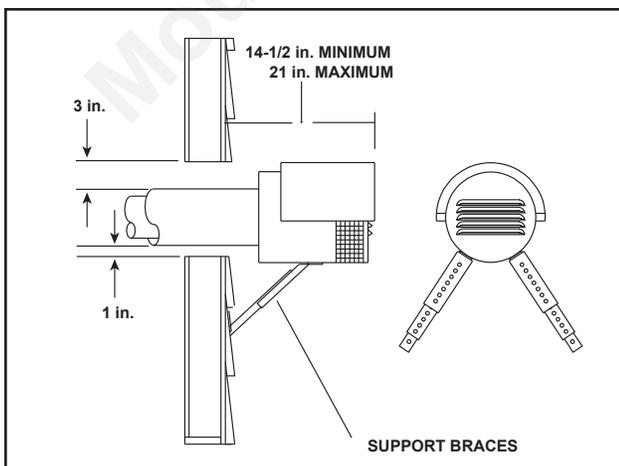

Figure 5.
5. The minimum distance from the outside wall to the end of the top shield of the PVK-80 horizontal cap is 14-1/2 inches. The maximum distance is 21 inches. See Figure 5.
6. Two support braces are provided and MUST be used to mount the PVK-80 horizontal cap to the wall. Screw one end of each brace to the bottom of the cap housing, using the pilot holes in the cap. Extend each brace until it contacts the building wall and tighten the bolt/nut in the center of each brace. Fasten the other end of each brace to the outside wall. See Figure 5.